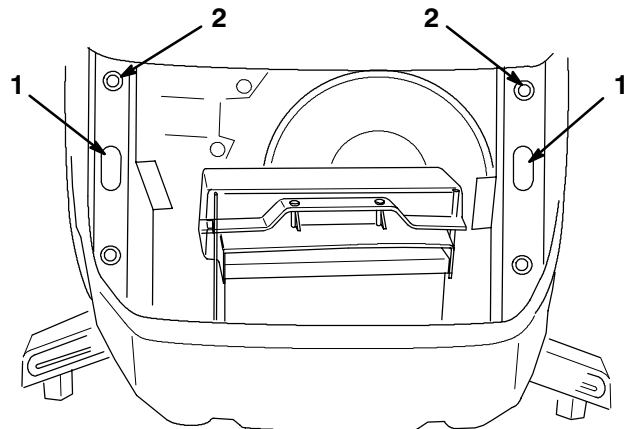

Figure 2
1. The front hood support braces have two slots (Fig. 2) that may be used to lift the tractor to install the front wheel spindles. To access these slots, remove the front grill and raise the hood.
**Note:** Remove, or be careful not to damage, the two upper grill grommets (Fig. 2).